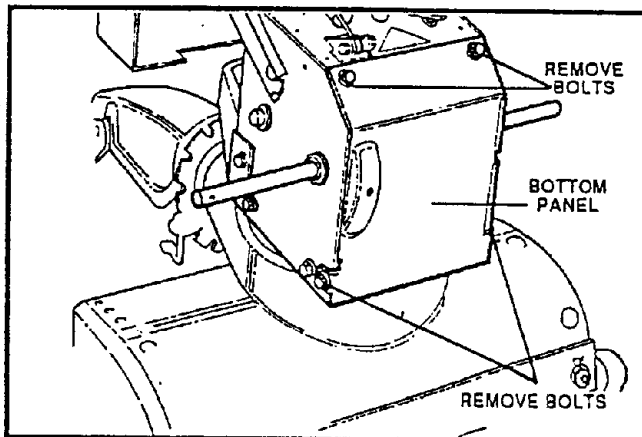

FIG. 13-SERV & ADJ
- Remove the bottom panel (See FIG. 13-SERV & ADJ).